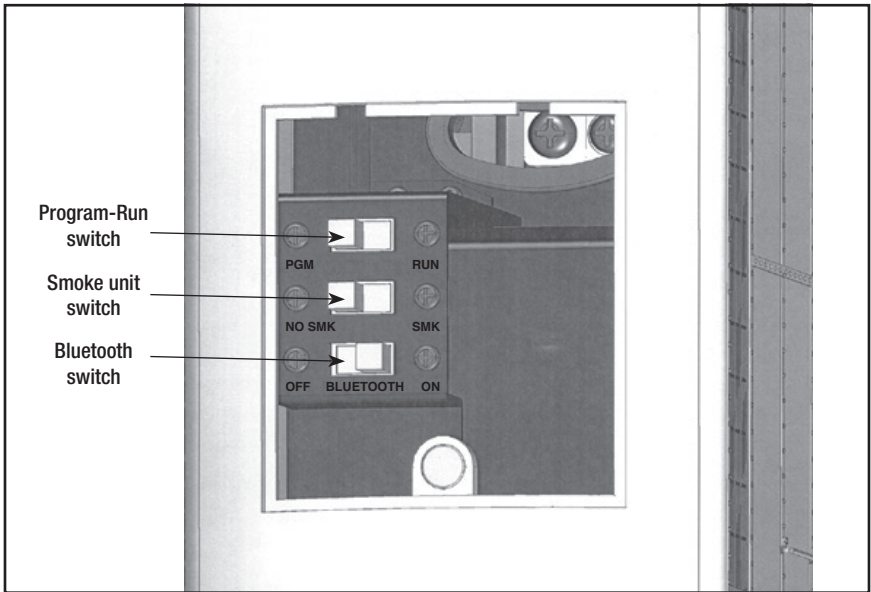

Figure 4. Switch locations
If you prefer to operate your locomotive without smoke, locate the smoke unit switch and slide it to the NO SMK position. Refer to Figure 4 on page 9 for the location of the switch.
The functions of your locomotive's switches are outlined below. Refer to Figure 4 for the location of the switches. **The instructions below are specific to this particular locomotive; note that available features (and switches) may differ from other locomotives and locomotive sets.**
- 1. Slide the program-run switch on your locomotive to the PGM position. See Figure 4 on page 9.**